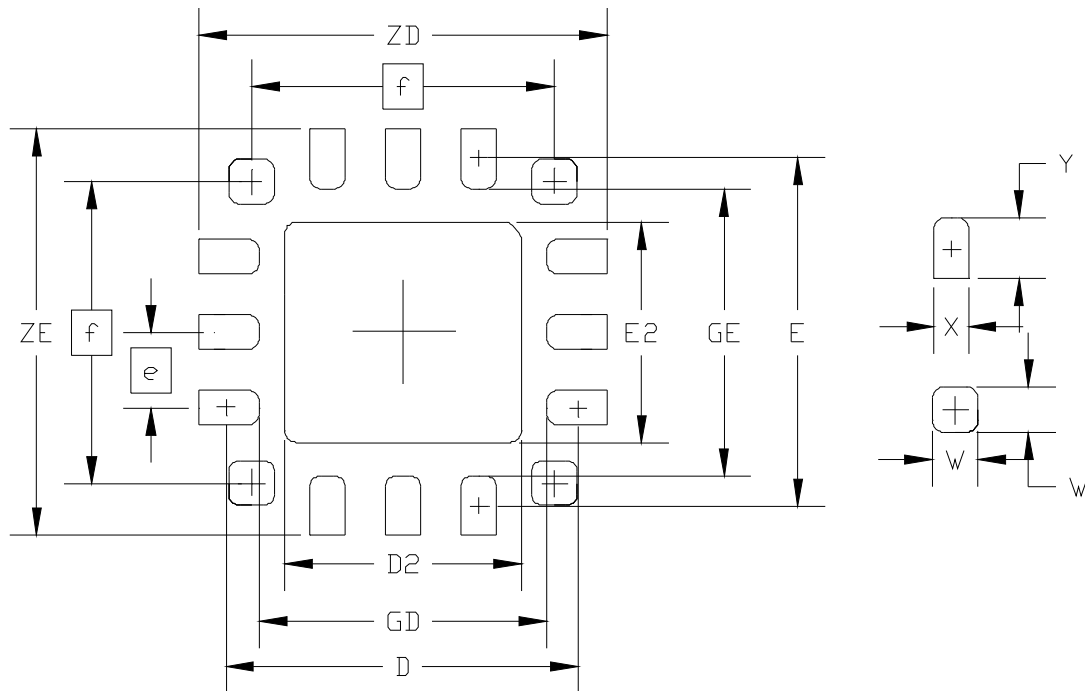

Figure 10. PCB Land Pattern
Figure 10 illustrates the PCB land pattern details for the Si4708/09-GM. Table 10 lists the values for the dimensions shown in the illustration.
- Minor optimization made to Figure 10 on page 37.